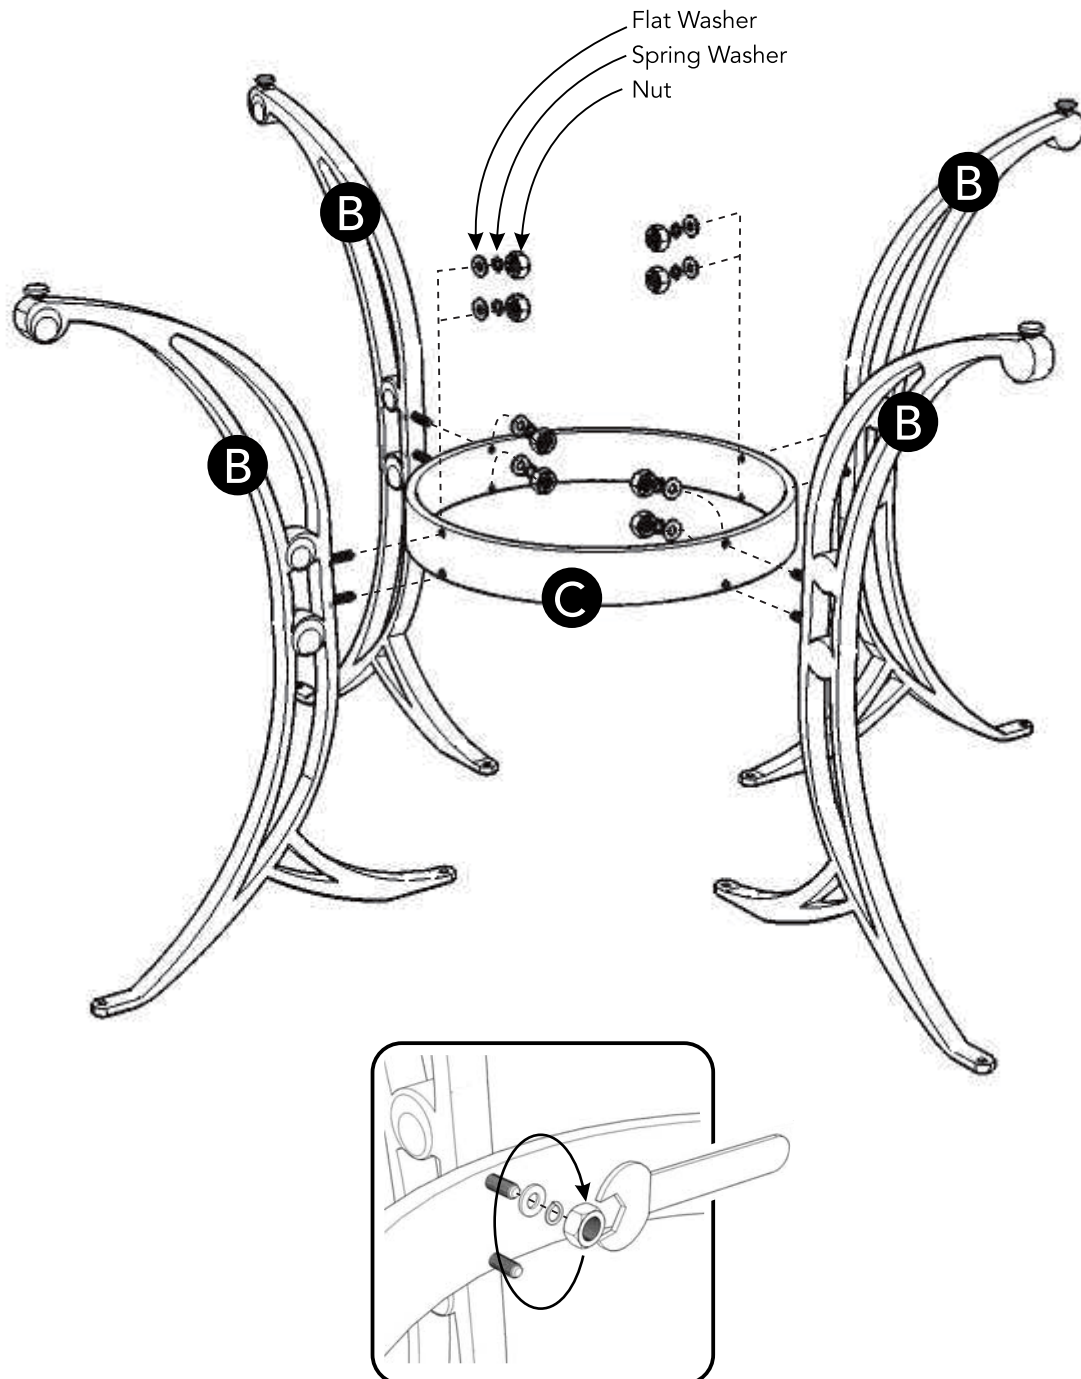

Figure 1
Attach Legs (B) to Stretcher (C) with Flat Washers, Spring Washers and Nuts, tightening Nuts only halfway. (See Figure 1)